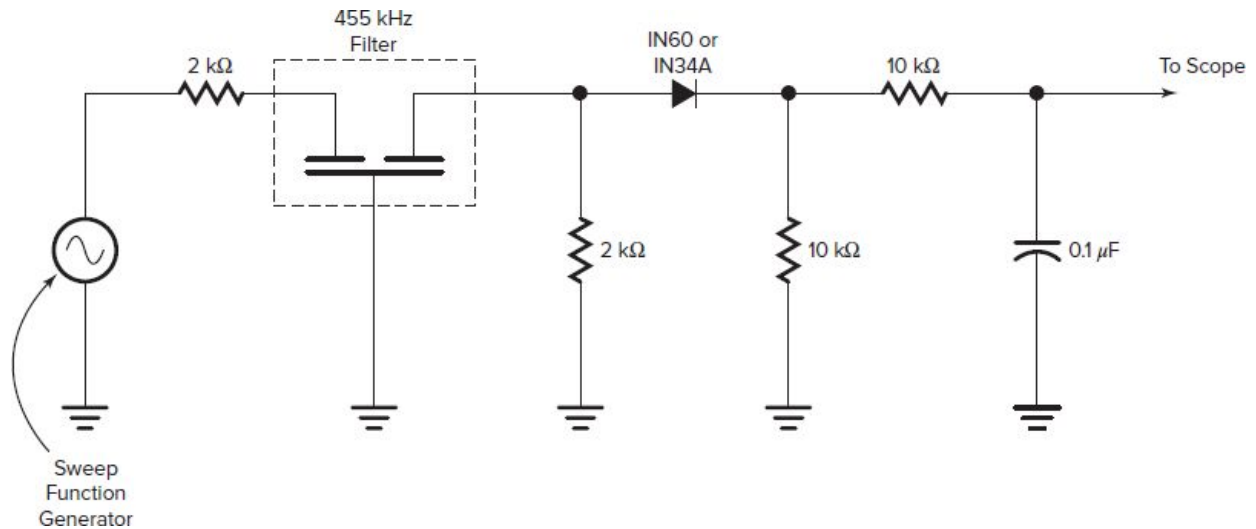

Fig. 2-2 Diode detector for sweep display.
6. Refer to Fig. 2-2. Add the diode and its 10-k Ω load and the low-pass filter made up of the 10-k Ω resistor and the 0.1- μ F capacitor.